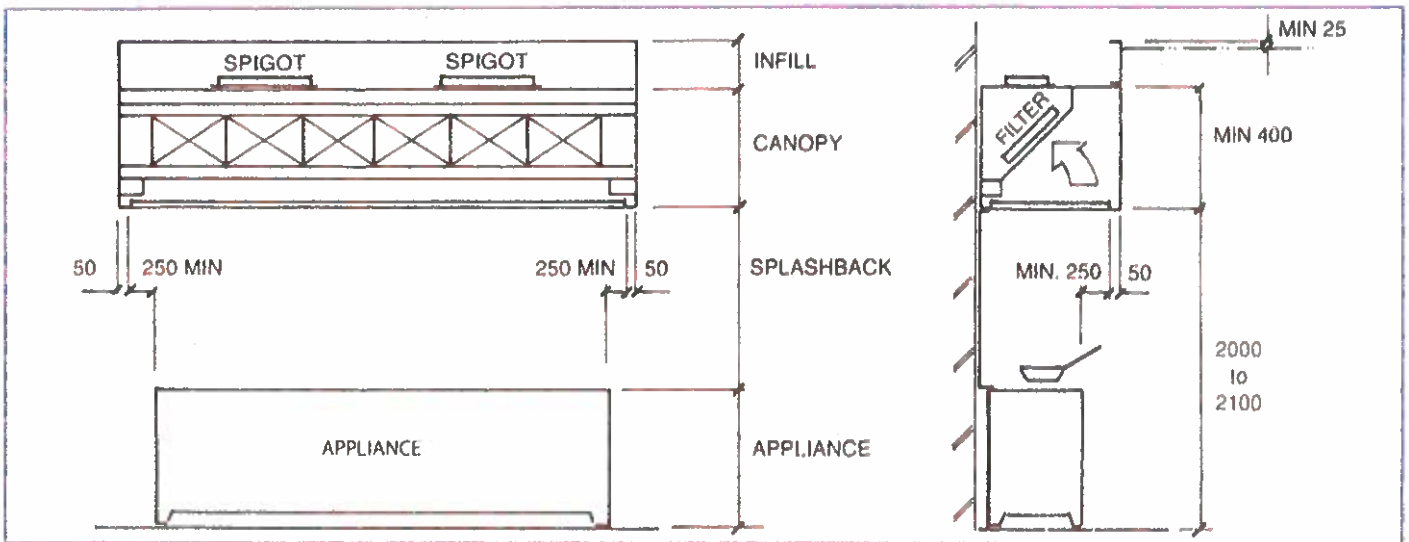

Fig 1 - Typical Canopy Dimensions
4.4 The height of the canopy is often governed primarily by the ceiling height. The underside of the canopy should be located between 2000 and 2100mm above the finished floor level, the top should project into the ceiling by a minimum of 25mm to allow the false ceiling trim to be attached. (see illustration in fig. 1).